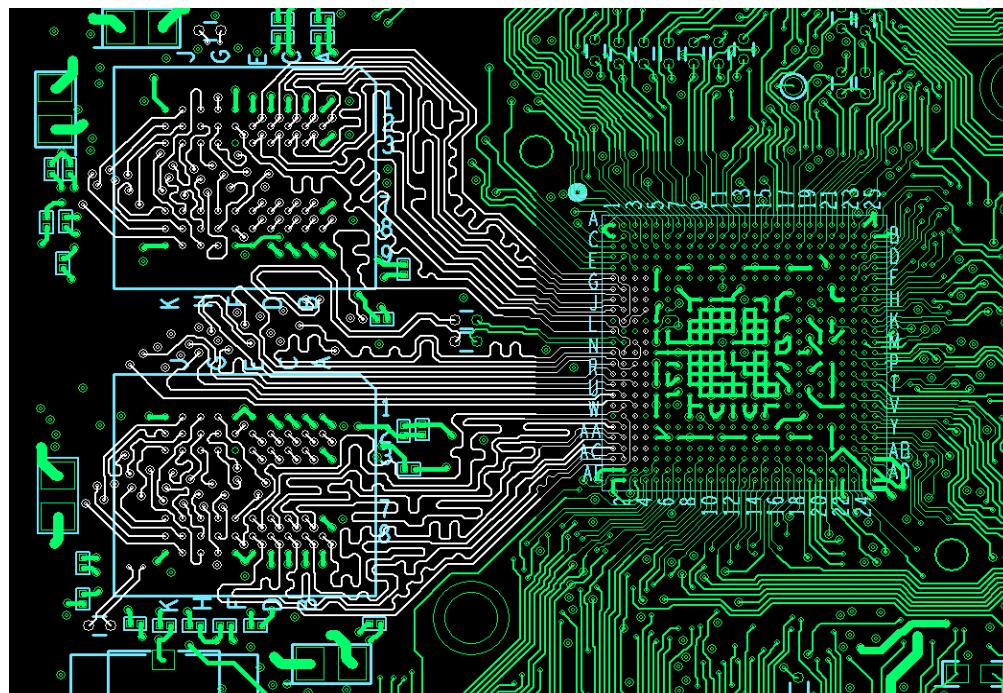
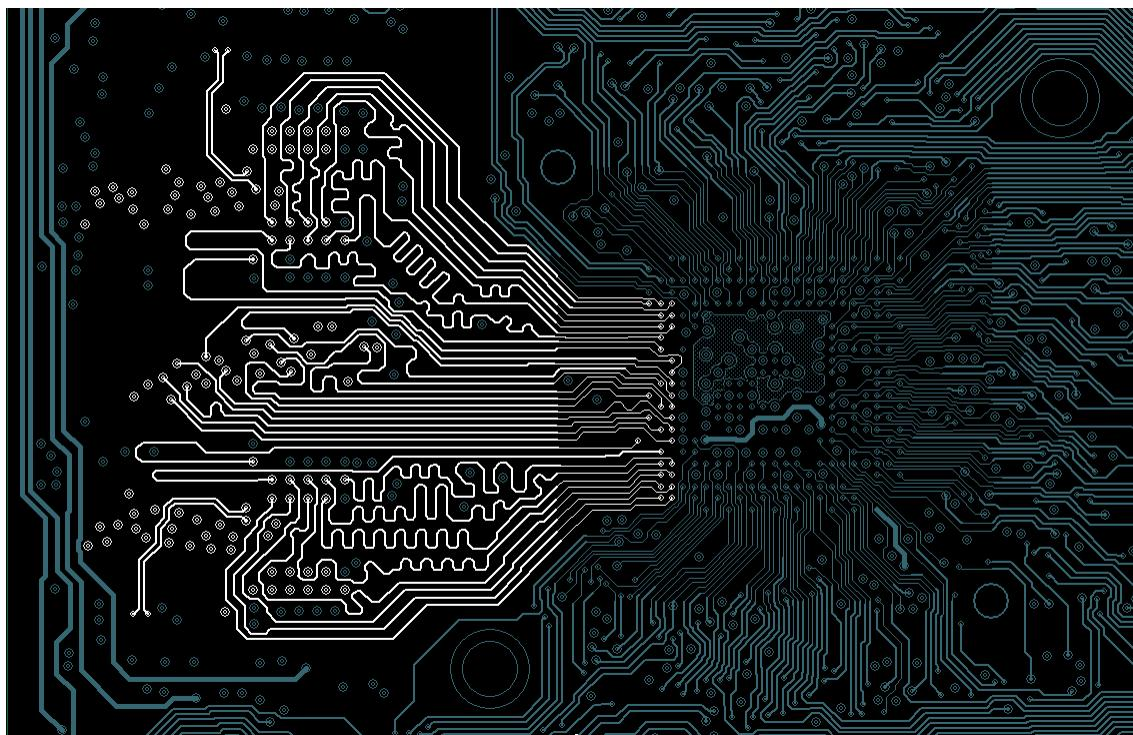
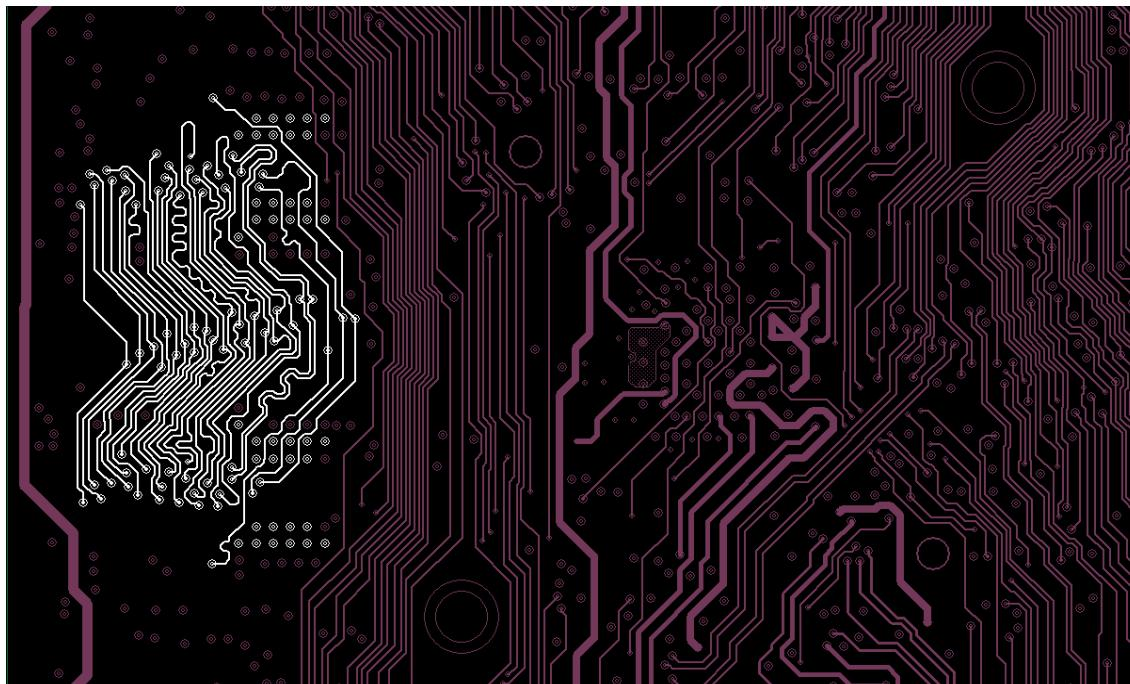
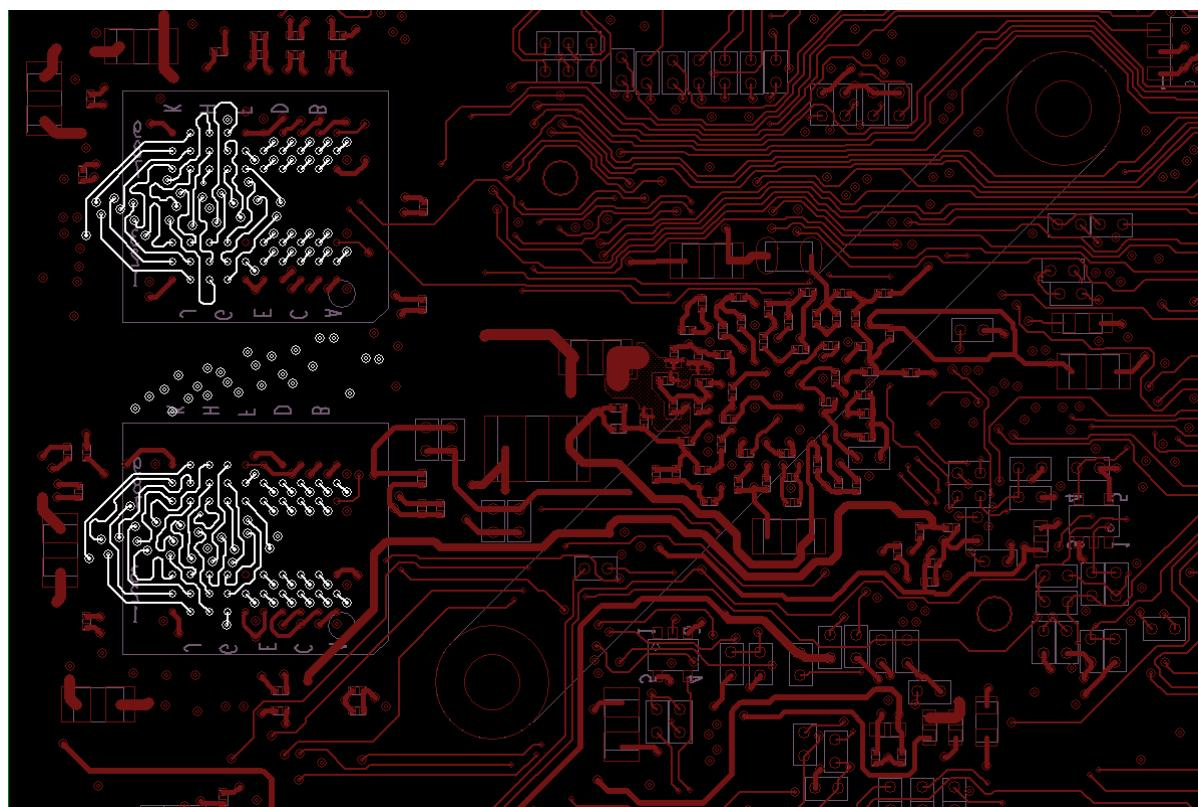

Figure 12. Top DDR Routing
Figure 13. Internal Signal 1 Routing
Figure 14. Internal Signal 2 Routing
Figure 15. Bottom DDR Routing
Figure 12, Figure 13, Figure 14, and Figure 15 give an example for routing mDDR memories. This example in effect is the guidelines for layer routing.
- Figure 12 shows top DDR routing.
- Figure 13 shows top internal signal 1 routing.
- Figure 14 shows internal signal 2 routing.
- Figure 15 shows bottom DDR routing.